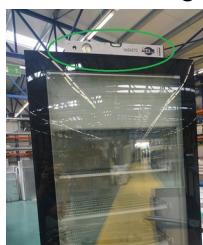

Fig 10. Level of the appliance
3.2.d Level the appliance from side to side and front to back by adjusting the 2 adjustable screw stands that are provided (except Icebox24 GD, Icebox30). Check the level of the appliance with a leveler, as shown in Fig 10.